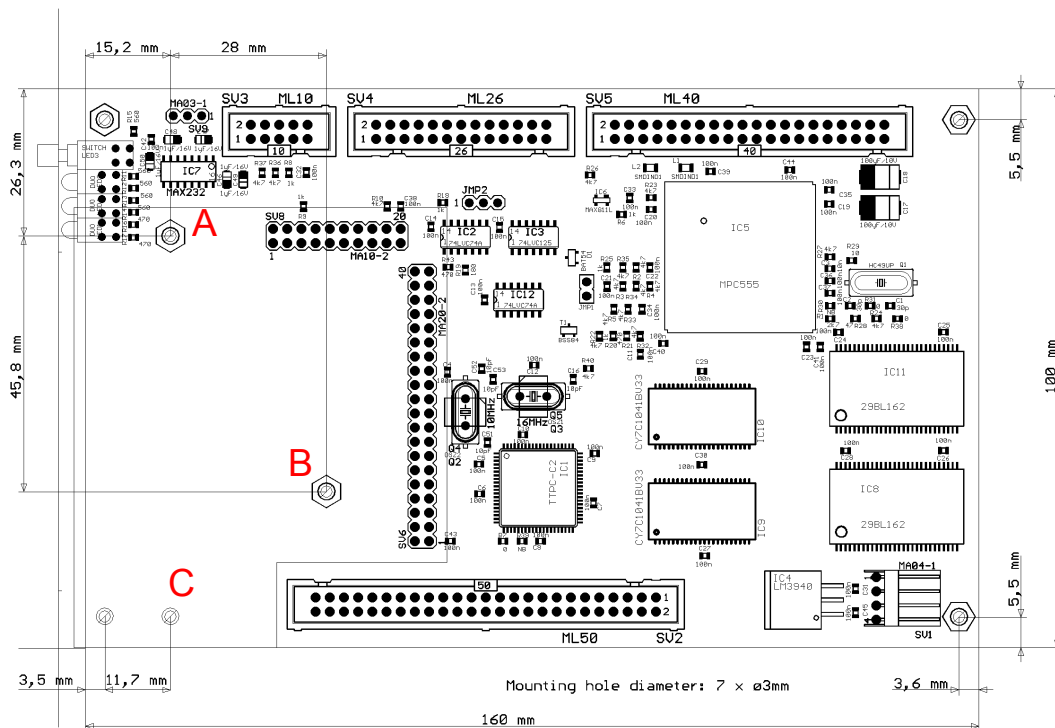

Figure 6.1: Placeplan of the base board of the TTP^{Power}node (PN312).
- d) Insert the required physical layer board. (for Option “MFM” use Distance bolts A,B,C; for Option “MII” use distance bolts A, C; see Figure 6.1)
The TTP^{Power}node has thirteen connectors. The following Figure 6.1 shows the position and name of the connectors.